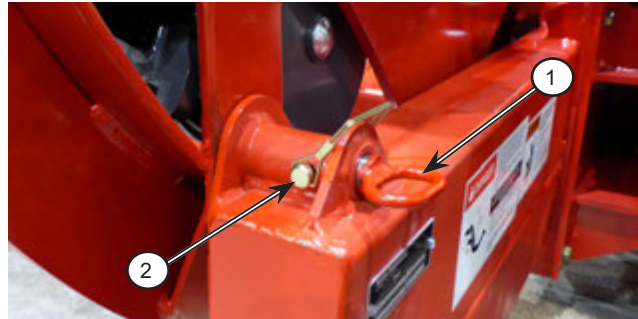

Figure 7.1: Remove the apron lock
- b. Remove the  $\frac{5}{16}$ " locking pins (2) from the 1" apron pins (1) and frame, as per Figure 7.1.